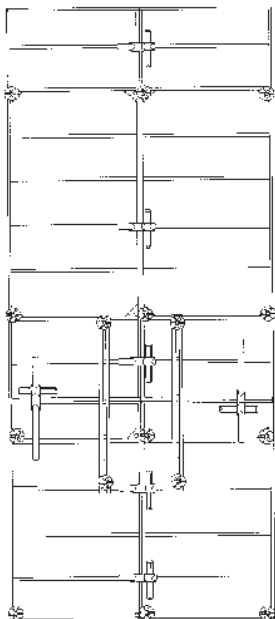

Fig. 2.4
- c) when setting vertical superstructure boards stiffening beams should be used instead of BM710 locks in order to increase the total formwork stiffness (Fig. 2.4);